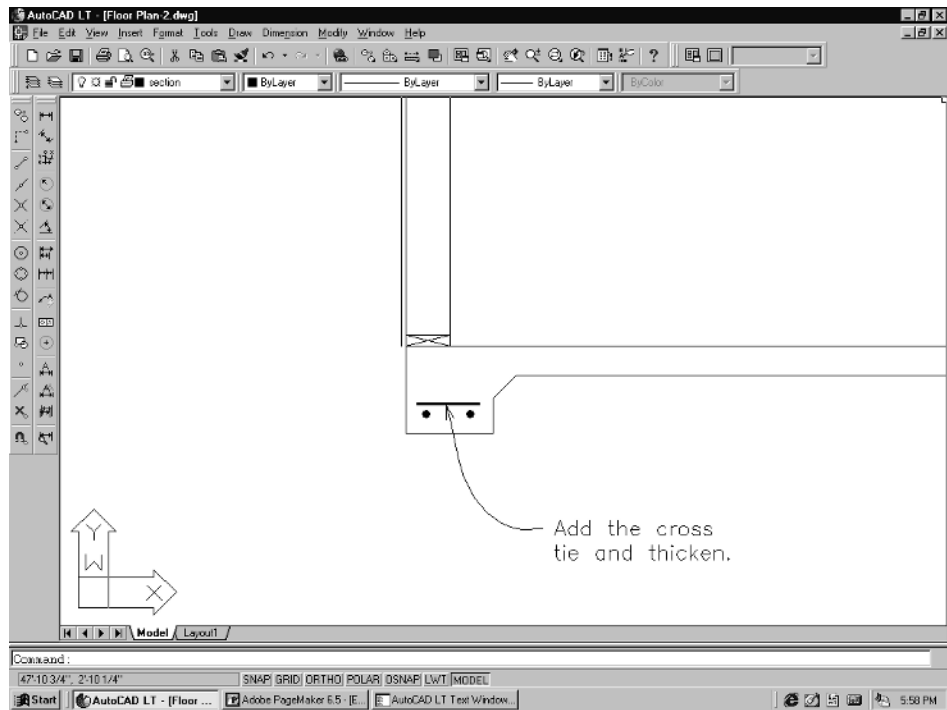

Figure 3-75
8. Next, add the cross tie using the Polyline command located on the Draw pull-down menu. Draw it so that it is as long as the distance between the two #4s. See Figure 3-75. You can change the width of the tie by going to the Modify pull-down menu and selecting **Object**, then picking **Polyline**.